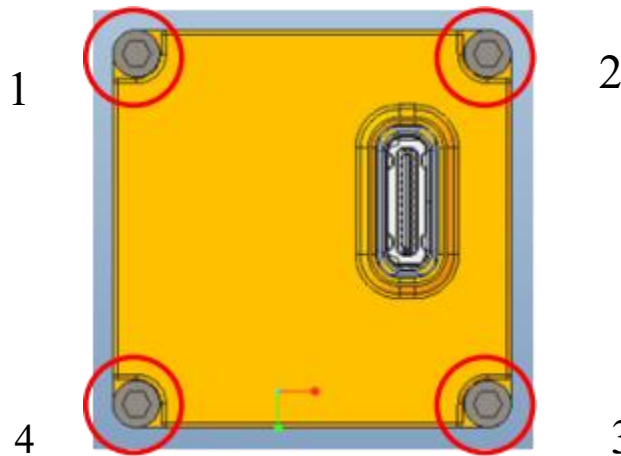

Figure 20: Interface Board Installation Diagram
d) When tightening or removing screws, follow a diagonal crisscross pattern, tightening or loosening them gradually rather than all at once. As shown in Figure 20, tighten them in the order of 1, 3, and 2, 4.;